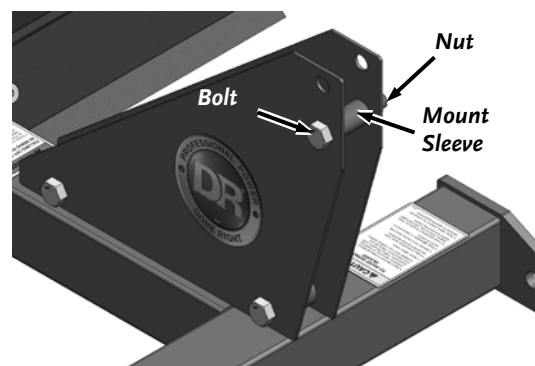

Figure 8
7. Install the M20 X 100 Bolt, Mount Sleeve and M20 Locknut in the second hole from the top in the Top Link Frames (**Figure 8**). Tighten all of the Top Link Frame hardware using two 30mm Wrenches.